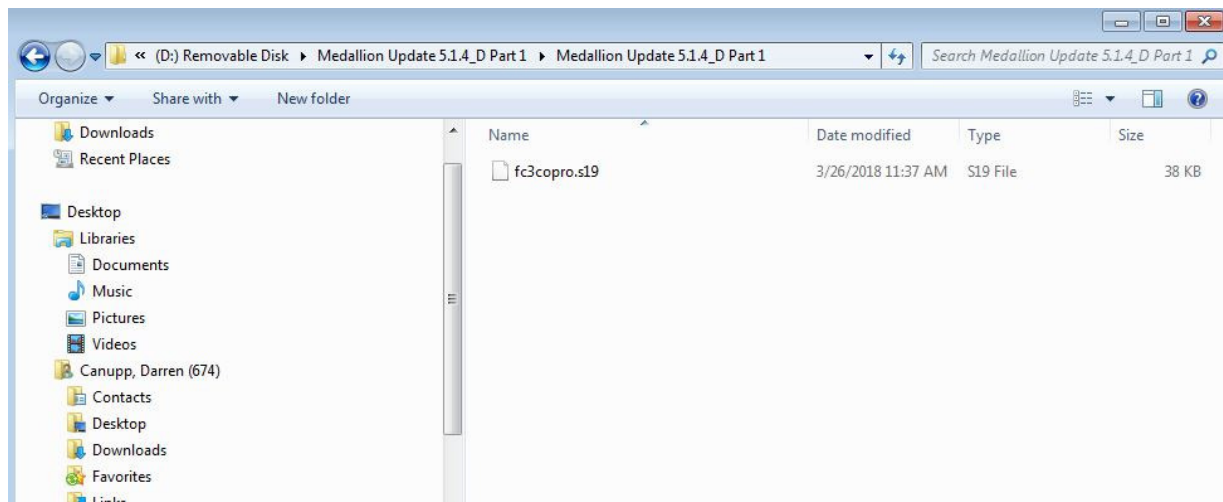

Fig. 9, Copying Files in the New Folder
9. Double click the newly created folder, then select and copy the file inside the folder. Select the root drive letter of this folder. See Fig. 9.